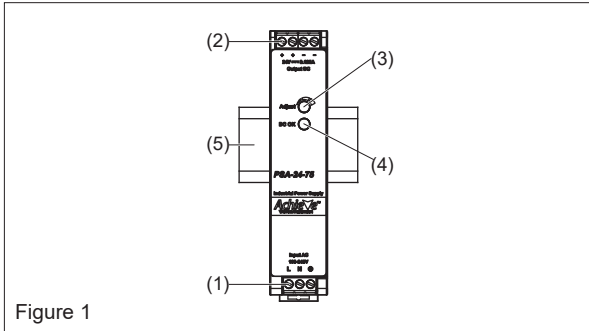

Figure 1
2. Device description (Fig. 1)
5.1. Input connection (Fig. 1, Fig. 6)
Use L, N and PE connections of input terminal connector (see Fig. 1 (1)) to establish the 100-240 VAC connection. The device has an internal fuse. The unit is tested and approved with branch circuit protective device up to 20 A.
5.2. Output Connection (Fig. 1 (2))
Use the "+" and "-" screw connections to establish the 12 VDC and 24 VDC connection. The green LED DC OK displays correct function of the output (Fig. 1 (4)).